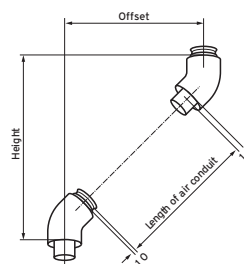

Fig. 6.4: Installation of 45° bends
- When using elbows for long flue runs in a corner follow fig. 6.4 and fig. 6.5 to avoid obstructions.
When using 87° elbow install with a slope of 3° between wall and air-flue pipe (fig. 6.4) or use 2 x 45° elbows (fig. 6.5).